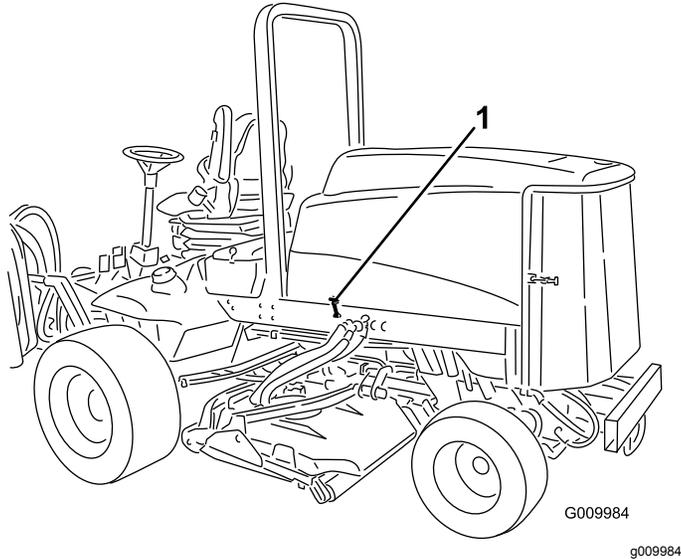

Figure 45
1. Release the hood latches (Figure 45) and pivot open the hood.